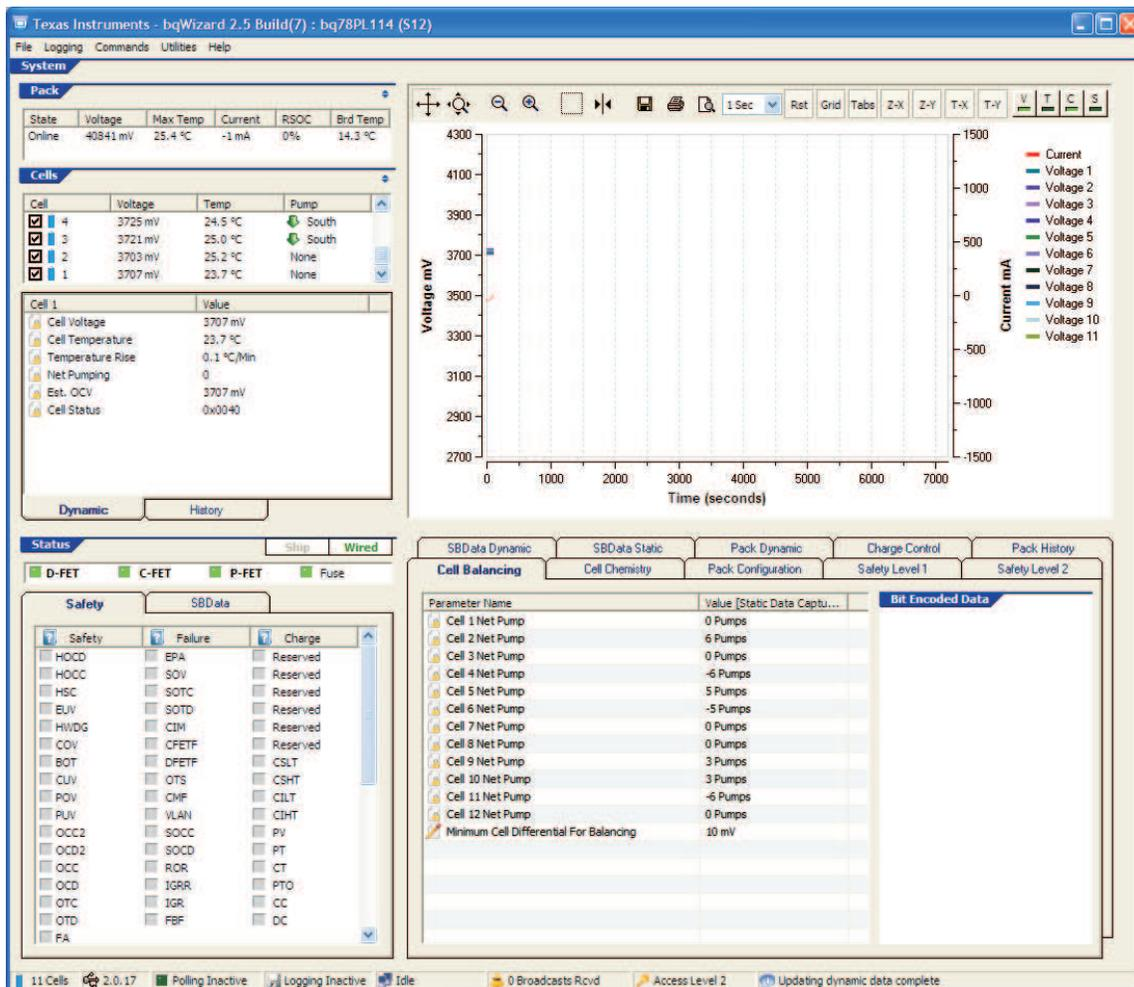

Figure 29. Home Screen Showing PowerPump™ Cell Balancing Active
6. Figure 29 shows cells 3 and 4 actively being balanced because their resting voltage is greater than Minimum Cell Differential For Balancing (default = 10 mV).
Figure 29 shows that the PowerPump™ Cell Balancing is active. Cells 3 and 4 are actively balanced because their resting voltage is greater than Minimum Cell Differential For Balancing (default = 10 V).